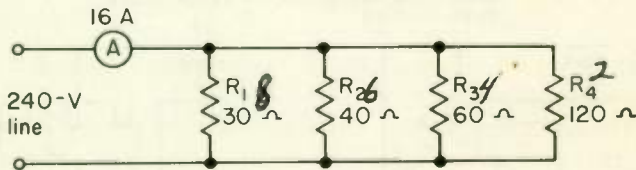

Fig. 54
- (1) the heaters are connected in series.
(2) the heaters are connected in parallel.
(3) pulling the tube caused the fuse to blow.
18. A certain clothes dryer has four heating elements, which are in parallel as shown in Fig. 54 when set for maximum heat. Heater resistance values are as shown. Since the customer's complaint is that the clothes are slow in drying, it is likely that one of the elements is either burned out or not getting current. The ammeter reads 16 A. Which element is faulty?